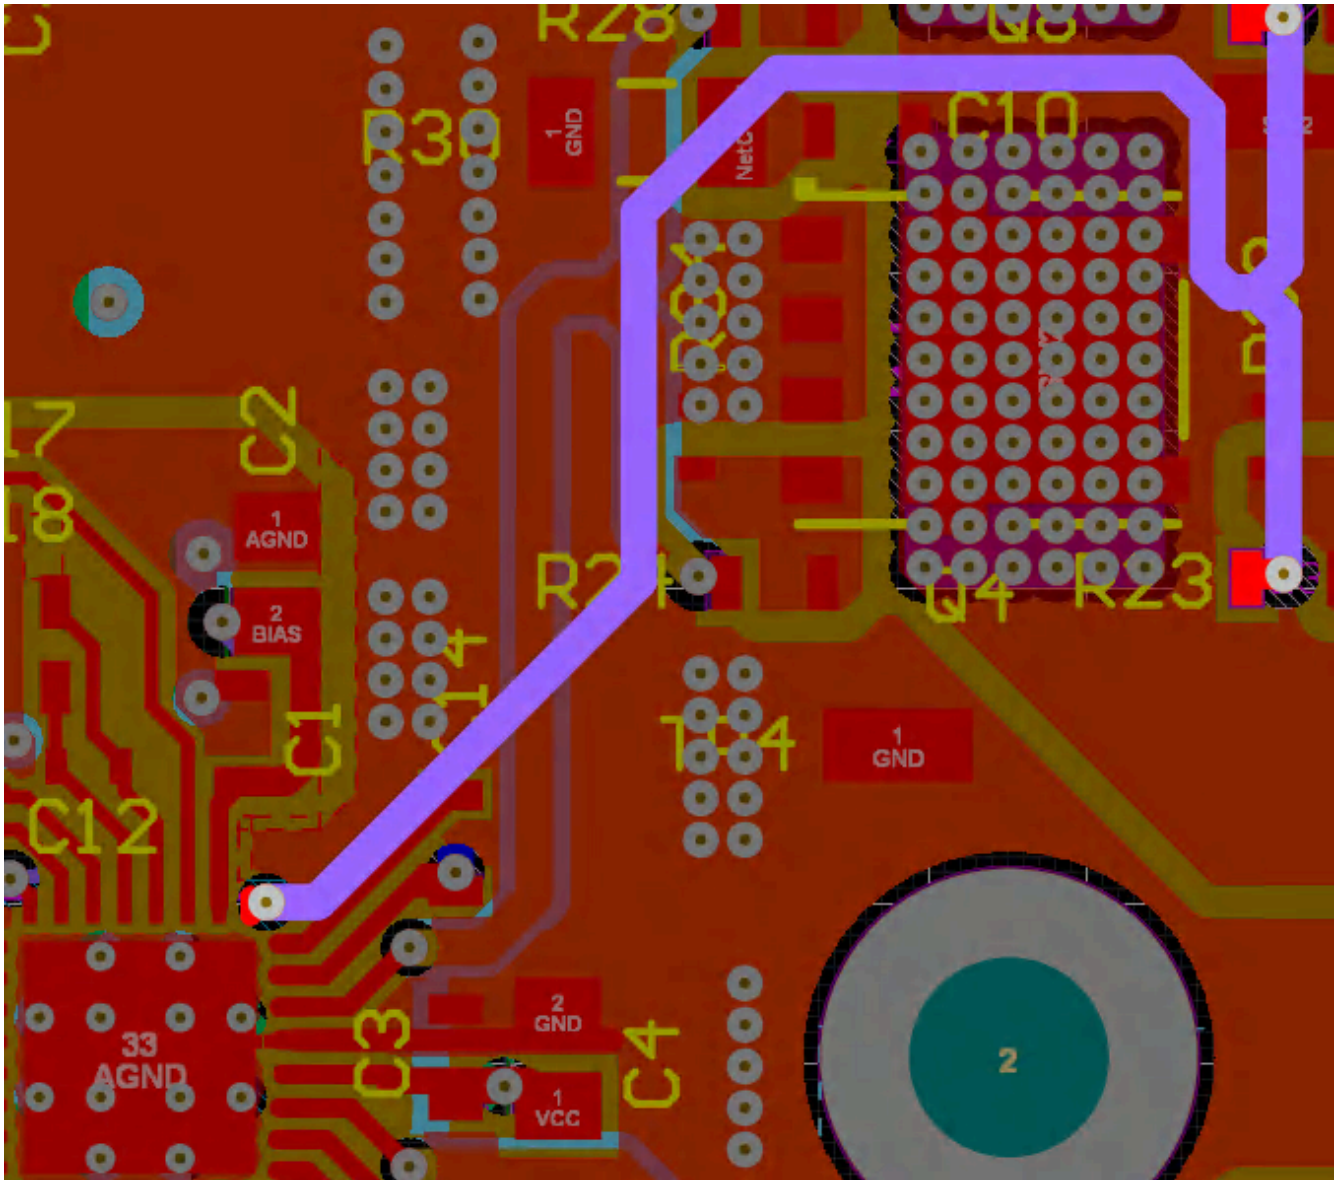

Figure 3-2. LM5125A-Q1 EVM HO-GND Kelvin Connection Design (Layer 5)
1. In terms of layout design, a Kelvin connection can be employed for the gate-to-Source loop, as illustrated in the LM5125A-Q1 EVM layout design shown in Figure 3-2